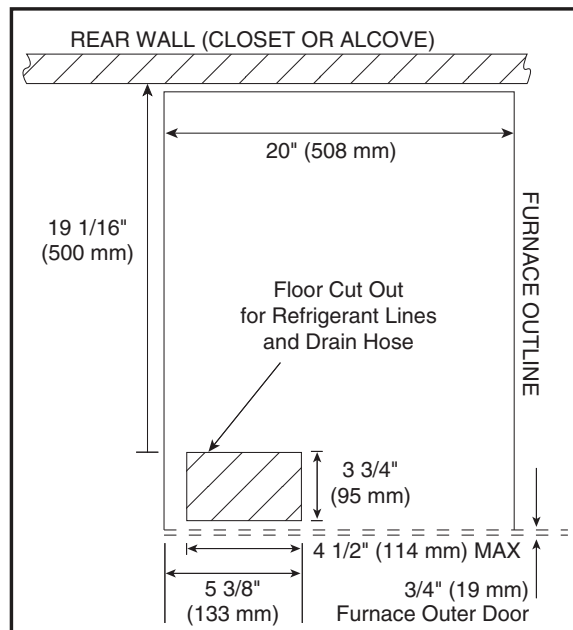

Figure 6. Location of Floor Cut-Out for Refrigerant Lines and Drain Line
8. Cut the floor opening for the refrigerant lines and drain line (See Figure 6).
3. Remove the knockout in the left bottom corner of the furnace and cut an appropriately sized hole in the floor. See Figure 6.